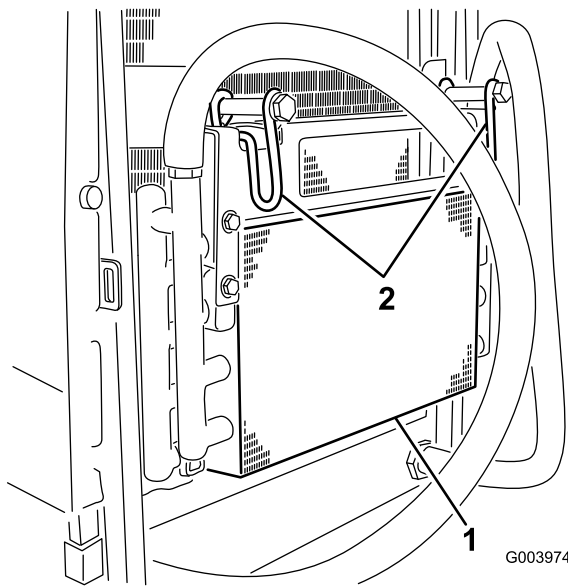

Figure 101
7. Rotate the 2 oil-cooler latches inward, and tilt oil cooler (Figure 101).